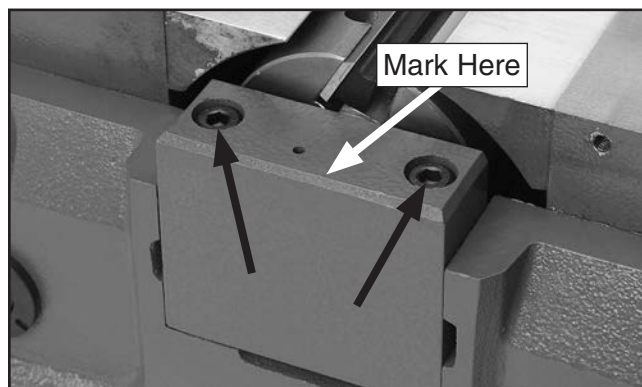

Figure 3. Location for removing cap screws and lock washers on front bearing block.
8. Remove cap screws and lock washers that secure both bearing blocks, as shown in **Figure 3**.
9. Mark side of front bearing block that faces front of machine (see **Figure 3**) with tape or a felt marker to make it easier to re-install bearing blocks later.